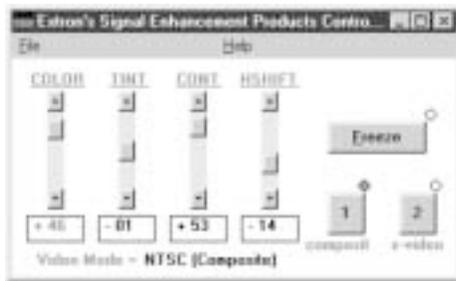

Figure 7 — Signal enhancement program window
3. Extron's Signal Enhancement Products Control Program window (figure 7) displays current input selection (red dot) and control values, as well as the slider controls.